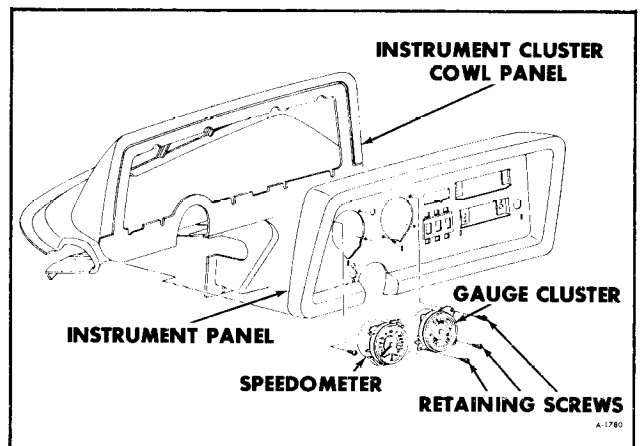
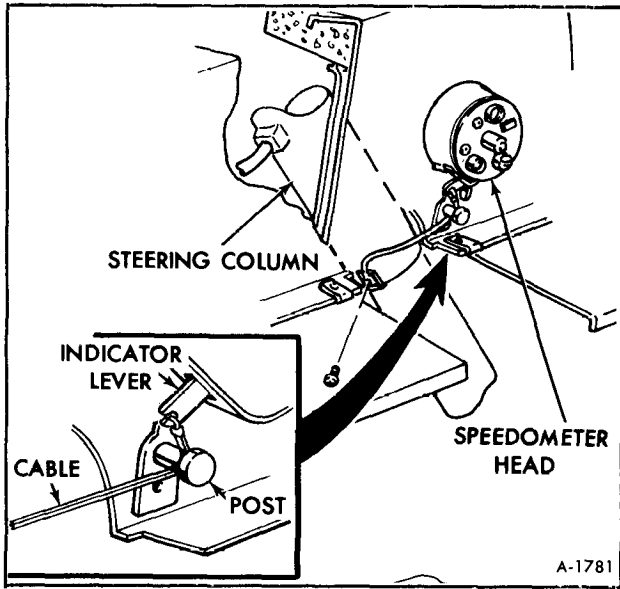

Figure 3—Speedometer and Gauge Cluster
Figure 4—Gear Indicator Cable Connection
4. Remove the (3) speedometer retaining screws (See figure 3) and ground wire.
6. Disconnect (4) wire electrical connector from the back of the speedometer head.
9. When installing new or repaired speedometer head, the gear indicator cable should be routed around the metal post on the back side of the instrument panel. (See figure 4)
### GAUGE CLUSTER REPLACEMENT (FIGURE 3)
3. Remove the (3) gauge retaining screws and pull gauge out as far as possible. (See figure 3)